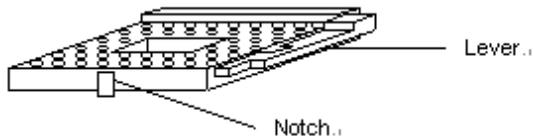

Figure 3: CPU Socket
1. Check and confirm that the jumpers are correctly set for the CPU being installed (figure 3).